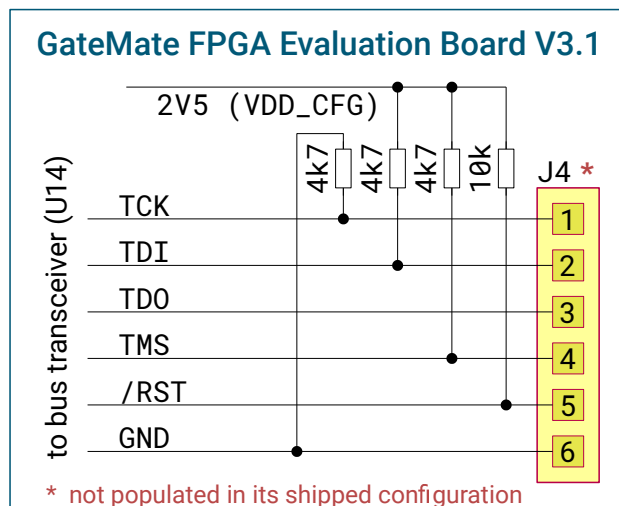

Figure 3.9: Optional JTAG interface connector J4
The JTAG interface can be accessed from any user device. For this, connector J4 (2.54 mm pin pitch, 6 pins) has to be populated. Figure 3.9 shows the pin assignment of the JTAG connector.
- An external JTAG device can feed a reset signal to the FPGA via the JTAG connector J4 pin 5 (see Figure 3.9).